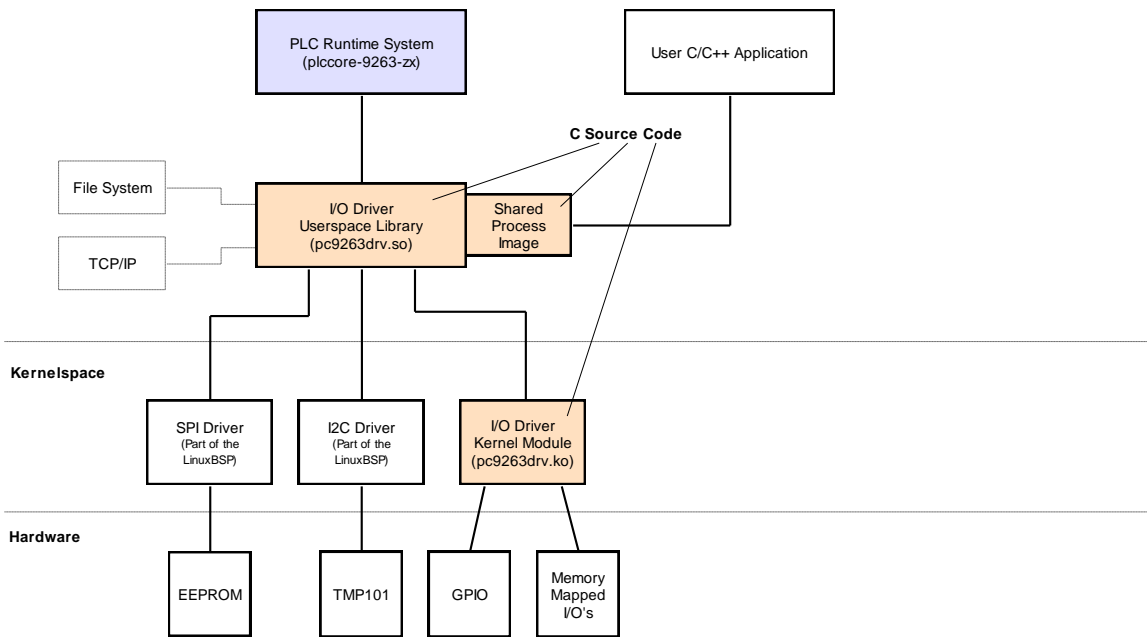

Figure 34: Overview of the Driver Development Kit for the PLCcore-9263
Figure 34 provides an overview of the DDK structure and its components. The DDK contains amongst others the source code of the Linux kernel driver (*pc9263drv.ko*) and the Linux user library (*pc9263drv.so*).
1. Source code for the Linux kernel driver (*pc9263drv.ko*, see Figure 34); includes all files necessary to regenerate kernel drivers (C and H files, Make file etc.)
2. Source code for the Linux user library (*pc9263drv.so*, see Figure 34); contains all files (incl. implementation of Shared Process Image) necessary to regenerate a user library (C and H files, Make file etc.)